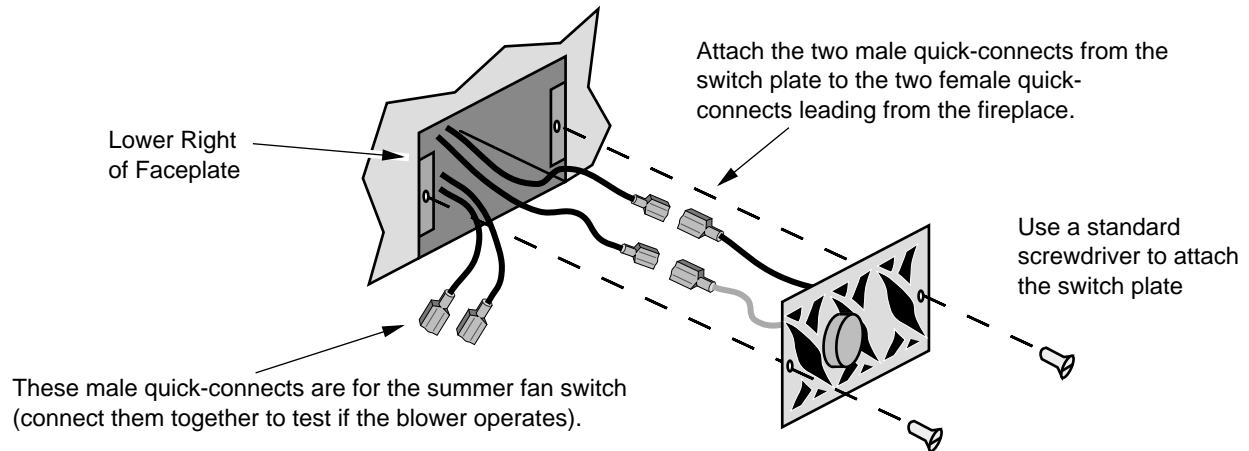

Figure 34
- Attach the two male quick-connects from the switch plate to the two female quick-connects leading from the fireplace (see Figure 34). If the optional summer fan switch is being used, connect the other two quick connects, otherwise tuck the two male quick-connects leading from the fireplace into the cavity behind the faceplate. Attach the switch plate to the faceplate using a standard screwdriver (NOTE: the attachment screws are threaded into the faceplate).